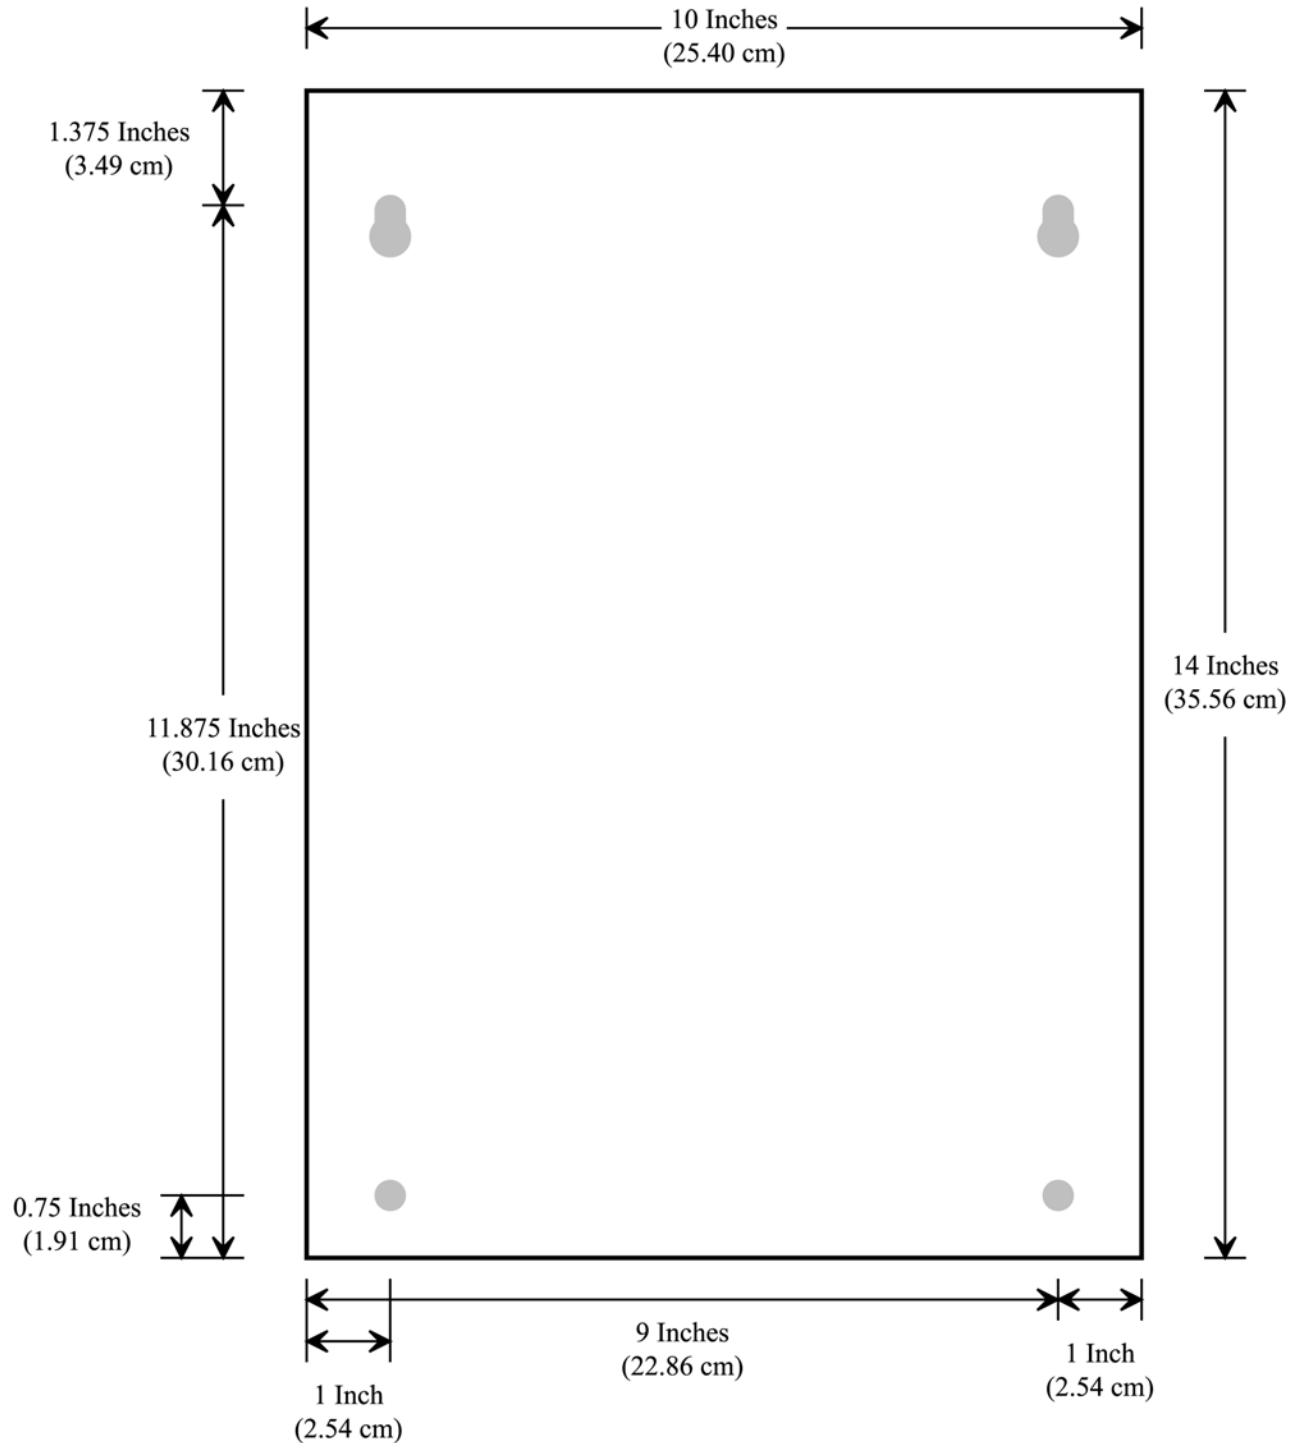

Figure 1: NPL II Cabinet and Auxiliary Relay Cabinet Mounting Hole Locations
1. For each NPL II Cabinet or Auxiliary Relay Cabinet, prepare the mounting surface to receive four #10 1-1/2 inch wood screws, or four 3/16 inch bolts or drive studs (see Figure 1 on page 2).